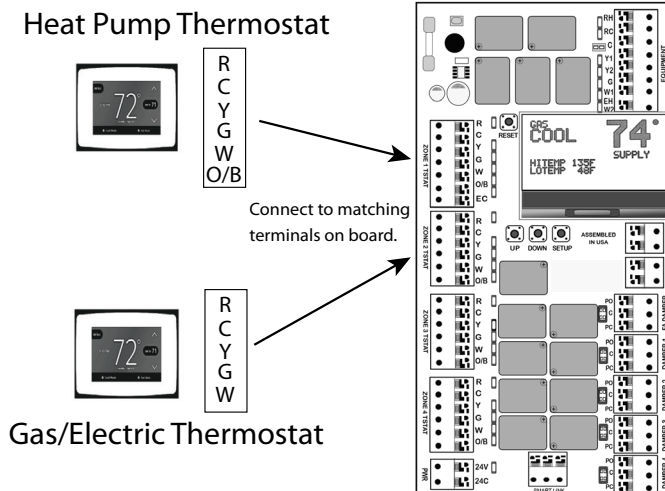

Fig. 2 – Thermostat Wiring A210201
1. Connect either single stage gas/electric or heat pump thermostats to each terminal blocks labeled Zone 1 TSTAT, Zone 2 TSTAT, Zone 3 TSTAT and Zone 4 TSTAT (Fig. 2).